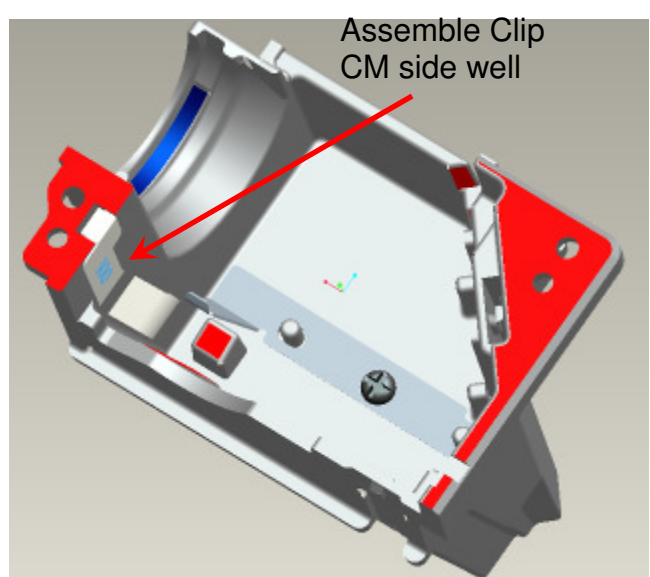

Fig. 3-7
- (2) Insert Clip CM Side to Sub HSG (Fig. 3-7).